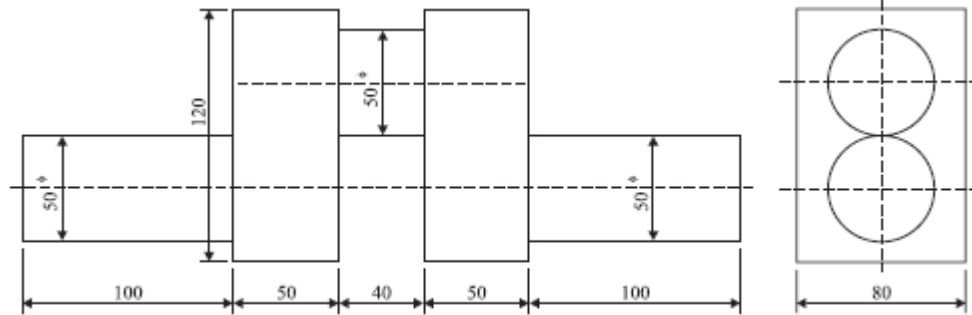

Fig. 5.9. Crank shaft.
- 9 (i) Analyze the cost of forging a crank shaft as shown in Fig. 5.9. The forging is to be made out of a bar stock of 50 mm f and following data is available: (8) BT4